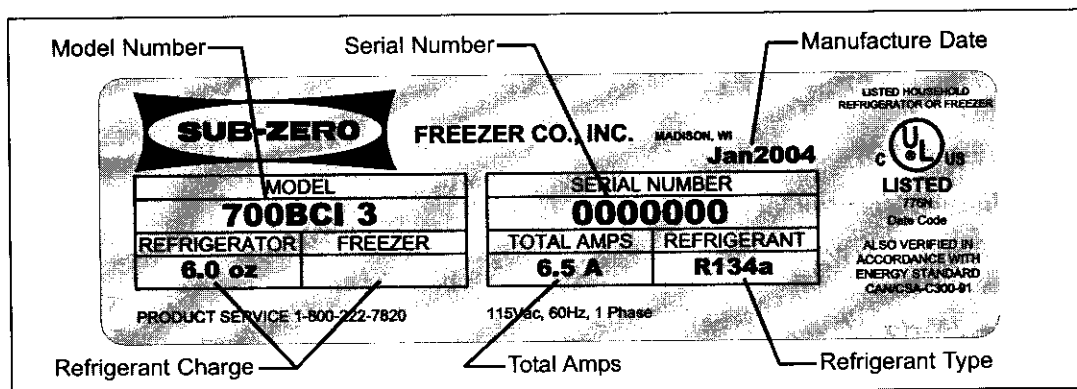

Figure 1-1. Serial Tag Layout (The serial number tag is located on the left side wall of the upper drawer compartment.)
• The serial number tag is located on the left side wall of the upper drawer compartment. (See Figures 1-1, for serial tag layout)